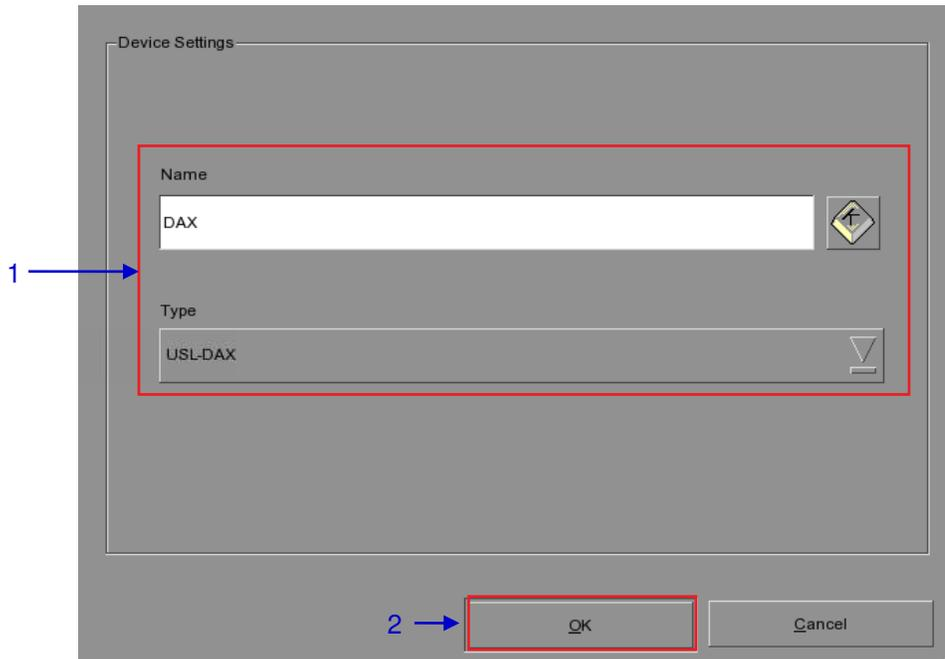

Figure 53 USL DAX automation device setup.
2. Click **[OK]** and set up the device parameters for the USL DAX device. (see Figure 53)